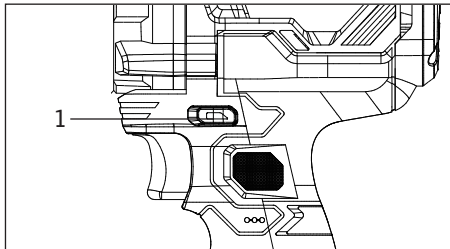

FIG. 5
This impact wrench is equipped with a forward/reverse button (1) (Fig. 5).